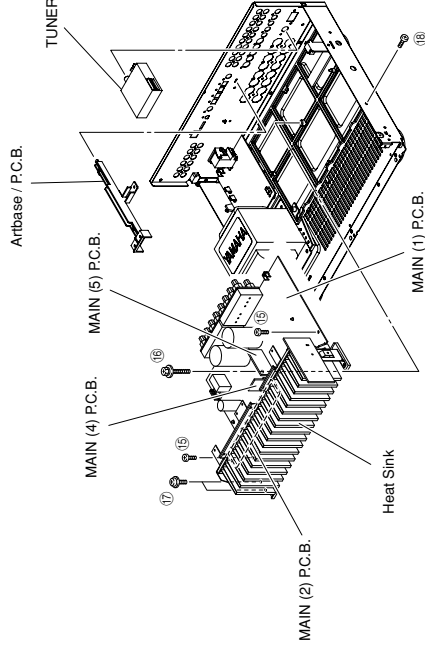

Fig. 5
- Remove the TUNER. (Fig. 5)
8. Removal of MAIN (1), (2), (4) and (5) P.C.B.s
- Remove the Airbase/P.C.B.. (Fig. 5)
- Remove 2 screws (⑮), 1 screw (⑯), 2 screws (⑰) and 1 screw (⑱). (Fig. 5)
- Remove MAIN (1), (2), (4) and (5) P.C.B.s together with the Heat Sink. (Fig. 5)